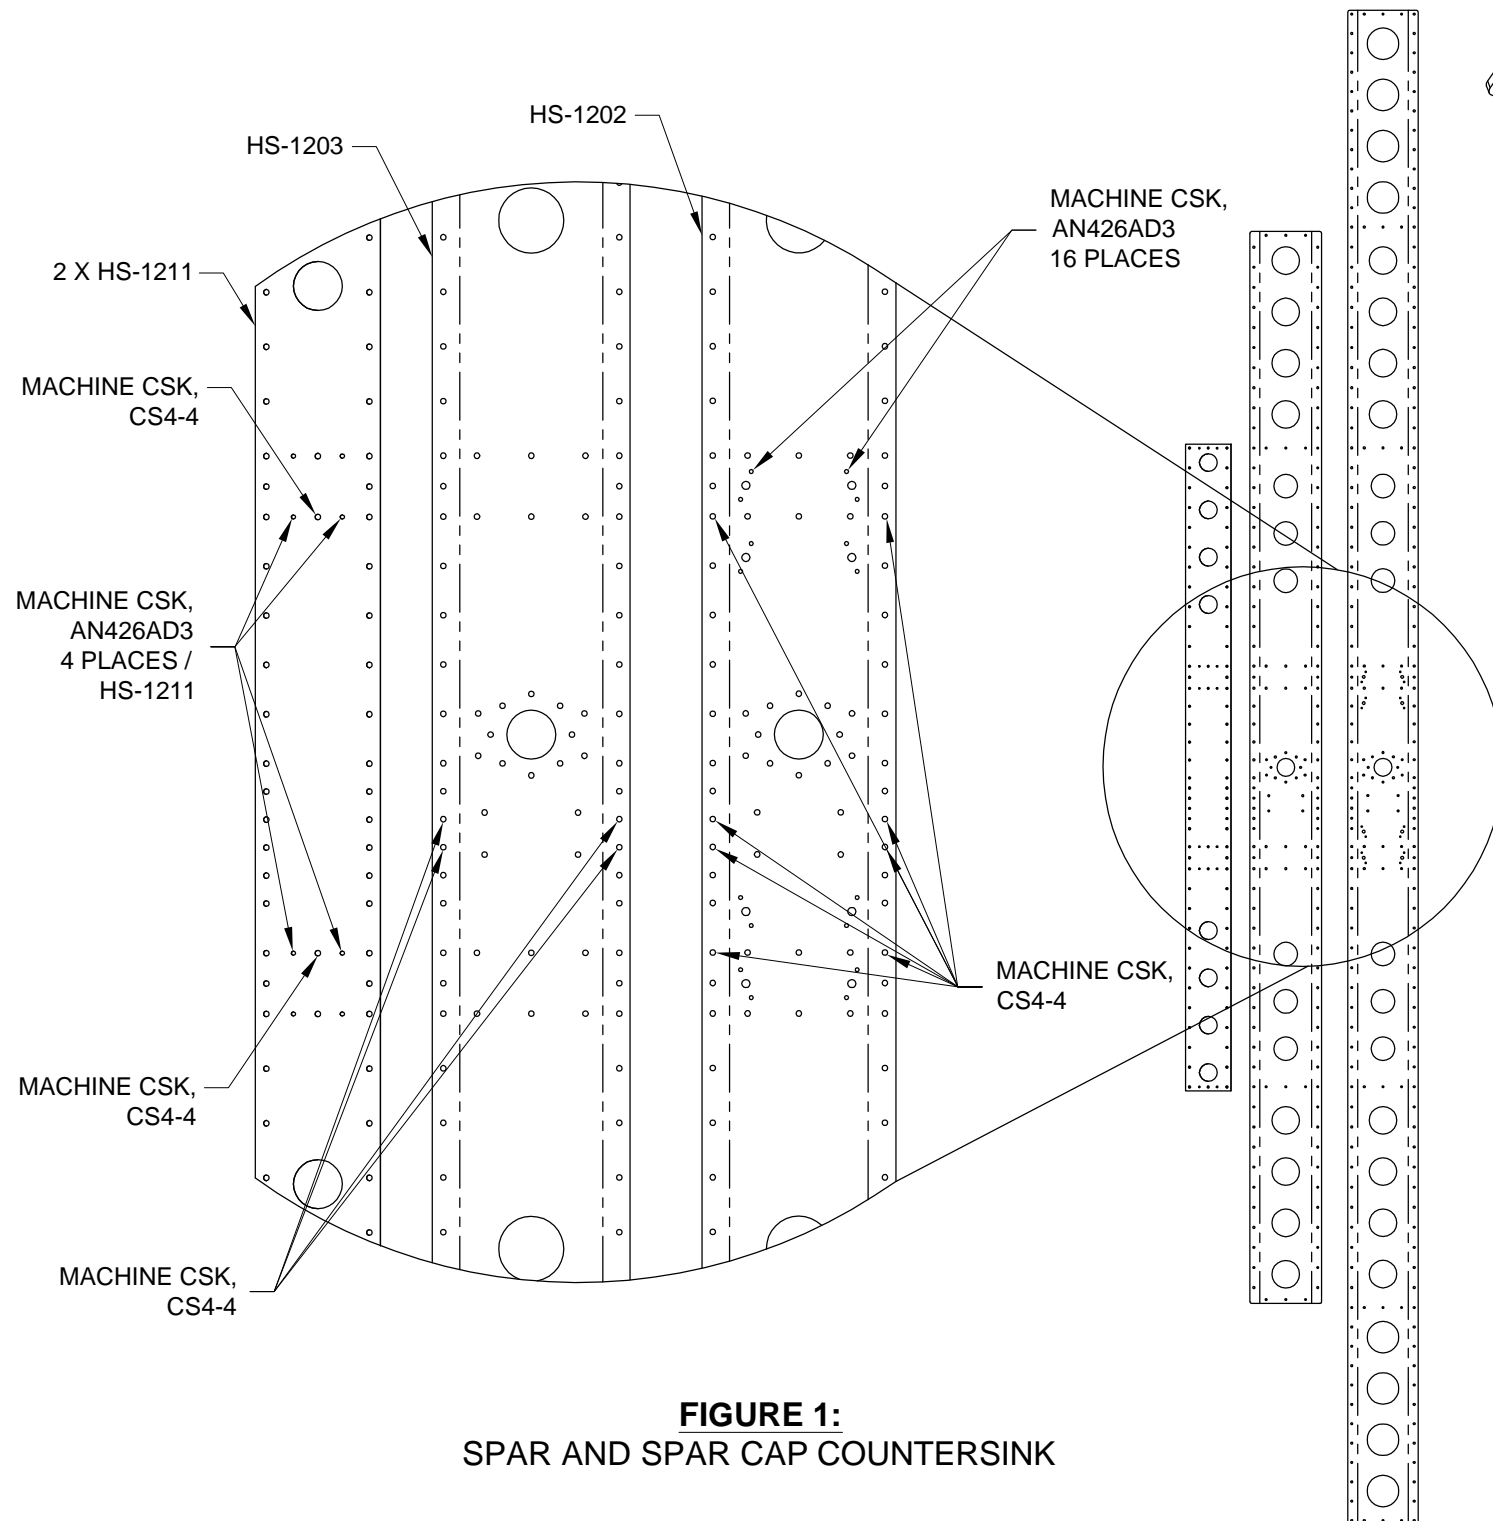

FIGURE 1:
NOTE: The spars in Figure 1 are shown unbent and oriented as if the flanges bend down. All countersinking done on the spars and spar caps will be done on the outer surfaces.
Step 1: Machine countersink the HS-1202 Fwd Spar for 1/8 inch rivets in the holes on both of the flanges as called out in Figure 1.
Step 2: Machine countersink the HS-1203 Aft Spar for 1/8 inch rivets in the holes on both of the flanges as called out in Figure 1.
Step 3: Machine countersink the HS-1202 Fwd Spar for 3/32 inch rivets in the nutplate attach rivet holes on the web as called out in Figure 1.
Step 4: Machine countersink both of the HS-1211 Spar Caps for 3/32 inch rivets in the holes called out in Figure 1.